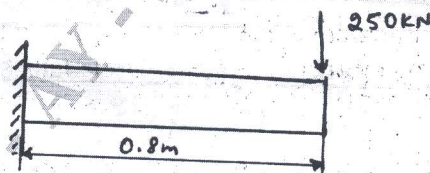

Fig Q5(b)
b. A cantilever beam subjected to point load of 250kN as shown in Fig Q5(b). Determine the deflection at free end. Take $E = 200 \text{ GPa}$, $I = 4 \times 10^6 \text{ mm}^4$.